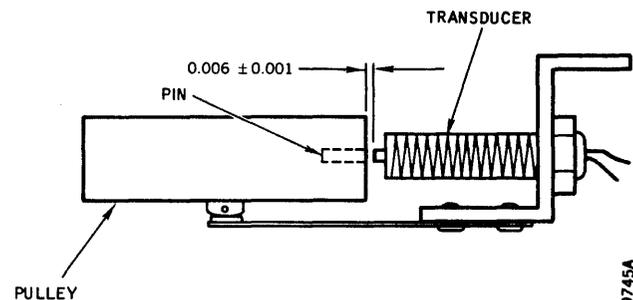

Figure 3-41. Speed Transducer Gap Limits
The Speed Transducer is a magnetic pickup coil located adjacent to the spindle pulley (Figure 3-41) that generates one speed pulse per revolution of the spindle. The pickup is from a carbon steel pin embedded in the spindle pulley over which the transducer is aligned. Transducer adjustment is usually necessary only if there has been shipping damage or if the transducer has been replaced.
4. Using nonmagnetic shim material as a feeler gauge, check the gap between the transducer and the carbon steel pin in the spindle pulley. It should be 0.006 ± 0.001 inch, as indicated in Figure 3-41. Also check that the end of the transducer coil is aligned with the pin.